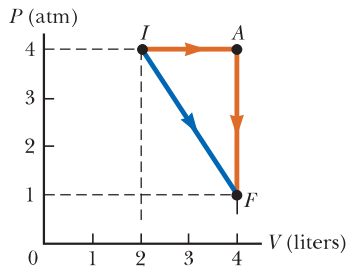

Figure P20.58
58. A gas expands from  $I$  to  $F$  in Figure P20.58 (page 622). **M** The energy added to the gas by heat is 418 J when the gas goes from  $I$  to  $F$  along the diagonal path. (a) What is the change in internal energy of the gas? (b) How